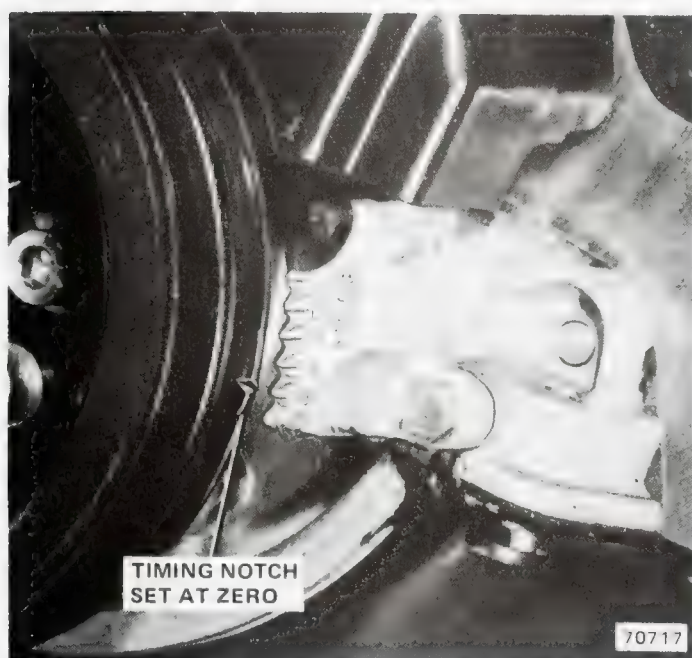

Fig. 1B-9 Crankshaft Timing Mark
(8) Turn offset adjusting nut on tensioning pulley (fig. 1B-10). Turn nut counterclockwise to increase tension. Belt is properly tensioned when drive side of belt can be twisted 90° with fingers.
(9) While maintaining pressure on tensioning pulley nut, tighten retaining screw to 39 newton-meters (29 foot-pounds) torque. Check belt tension after tightening tensioning pulley.
- (10) Install cam drive belt shield.
- (11) Install and tighten drive belts.